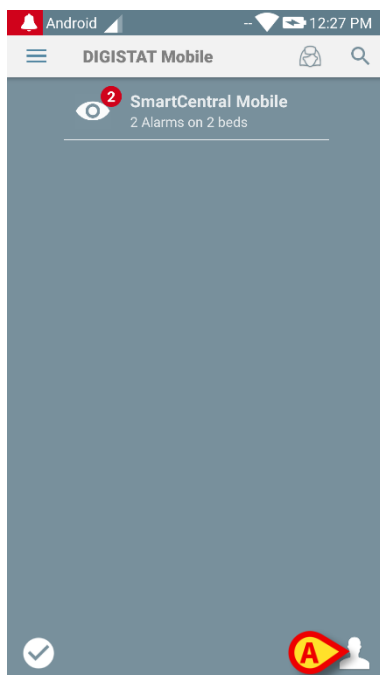
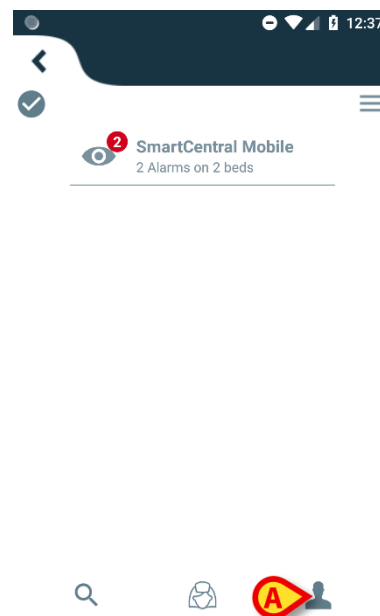

Fig 143
Fig 144
- Touch **Login** on the lower-right corner of the “Applications list” screen (Fig 143 **A** or Fig 144 **A**)